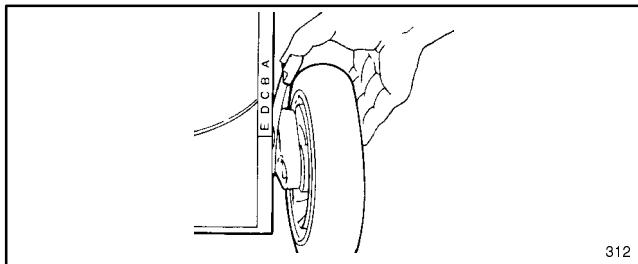

Figure 5
2. Put all four wheels in highest height-of-cut position (Fig. 5).